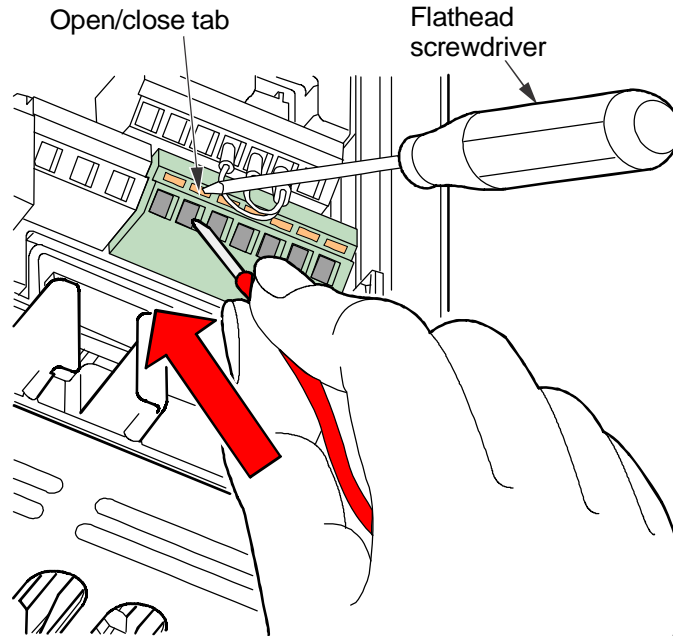

Figure 14: Wiring Analog Input Devices to the VFD68 Control
3. Push down on the orange tab to open the terminal (Figure 14).